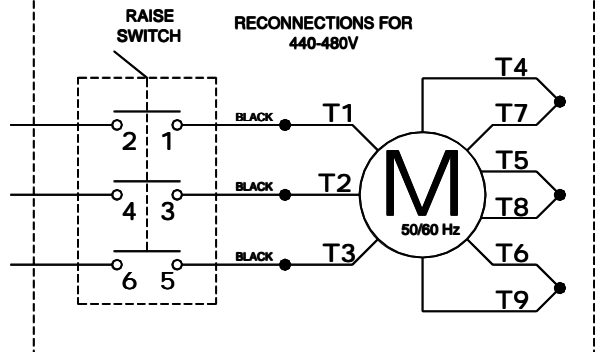

Fig 7 – Electrical Wiring Diagram
- 16) Route cable up and over sheave in overhead. Follow across to other sheave on opposite column. Route down through opposite carriage to sheave in bottom of column. Route under sheave and up to cable attachment. Use **Fig 7** for proper attachment.
- 28) Refer to **Fig 7 Wiring Diagram** for all steps under this heading.